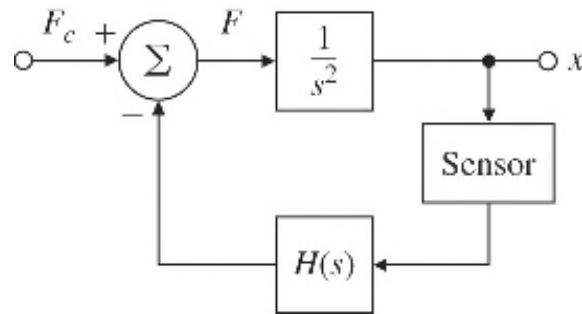

Fig. 5.61 Block diagram for rocket-positioning control system
30. Consider the rocket-positioning system shown in Fig. 5.61.